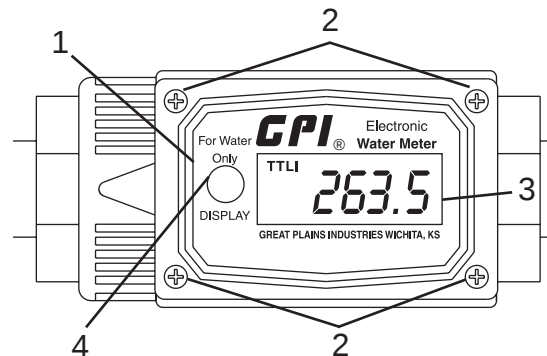

Figure 125
6. Activate the display by briefly pressing the DISPLAY button (Figure 125, Item 4).
7. Check the display (Figure 125, Item 3) to verify that it is operating normally. Re-seat the batteries if needed.
8. Install the meter faceplate (Figure 125, Item 1) on the meter body with four screws (Figure 125, Item 2).